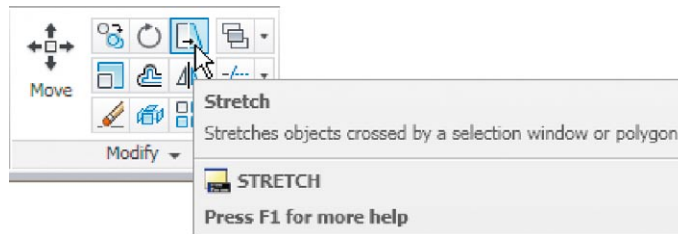

Fig. 5.33 The **Stretch** tool icon from the **Home/Modify** panel
2. Call the **Stretch** tool – either *click* on its tool icon in the **Home/Modify** panel (Fig. 5.33), *pick* its name in the **Modify** drop-down menu or *enter* **s** or **stretch** at the command line, which shows.
1. When circles are windowed with the crossing window no stretching can take place. This is why, in the case of the first example in Fig. 5.33, when the **second point of displacement** was *picked*, there was no result – the outline did not stretch.